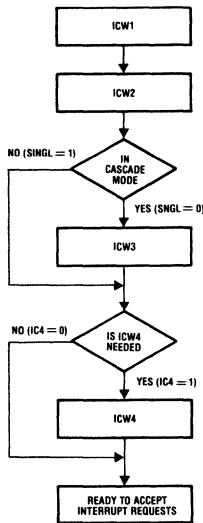

FIGURE 3. 82C59A INITIALIZATION SEQUENCE
The following section gives a description of the Initialization Control Words (ICW) used for configuring the 82C59A interrupt controller. There are four (4) control words used for initialization of the 82C59A. These ICWs must be programmed in the proper sequence beginning with ICW1. If at any time during the course of operation the configuration of the 82C59A needs to be changed, the user must again write out the control words to the device in their proper order. The initialization sequence is shown in Figure 3.